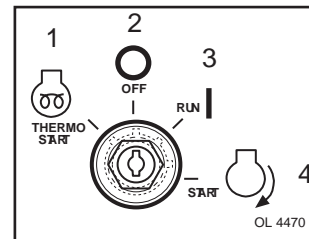

Figure 7
1. Insert ignition key (Figure 7).